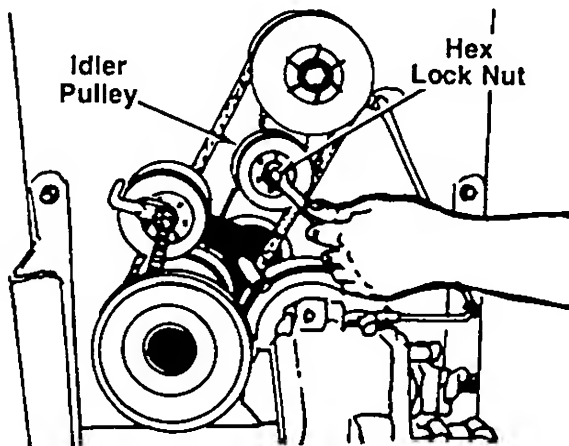

FIGURE 21.
8. Remove the idler pulley by removing the hex lock nut. See figure 21.